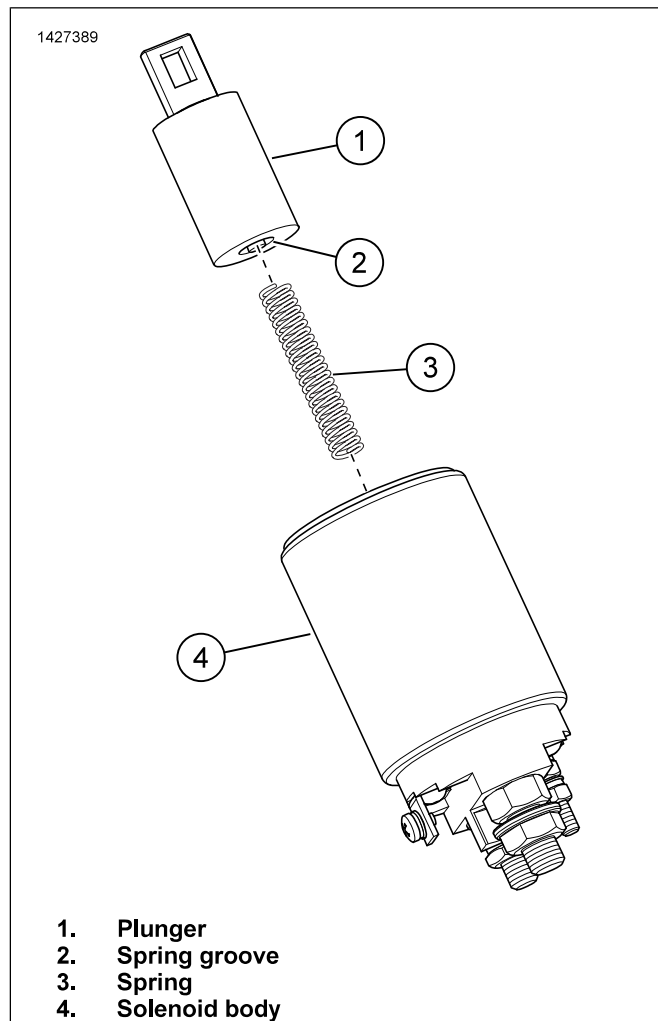
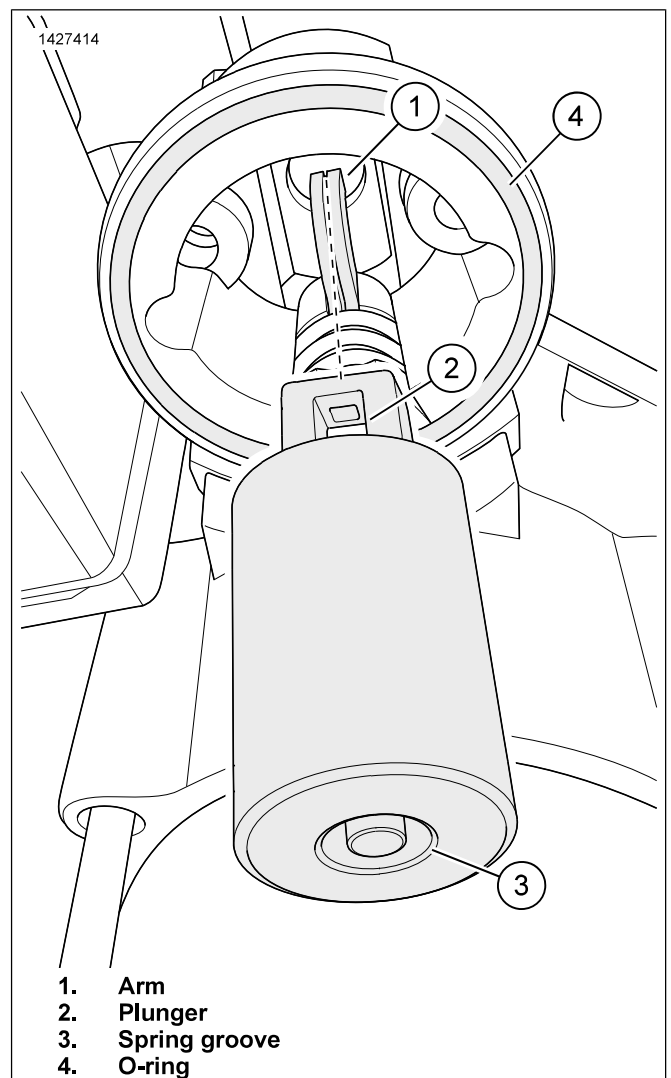
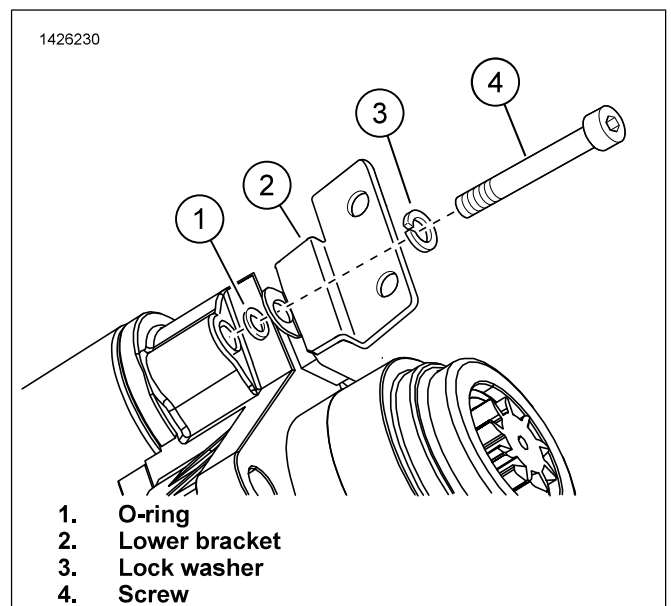

Figure 37. Solenoid Components
Figure 38. Solenoid Plunger Install
Figure 39. Contactor Z Lower Bracket
1. See Figure 38. Install plunger (2) with slot on arm (1).
2. Install O-ring (4).
3. See Figure 37. Place spring (3) in spring groove (2) on plunger (1).
4. Place solenoid body (3) in position with spring centered.
5. See Figure 39. Install O-ring (1).
6. Position lower bracket (2).
7. Move solenoid toward installed position and install screw (4) with lock washer (3). Tighten finger tight.